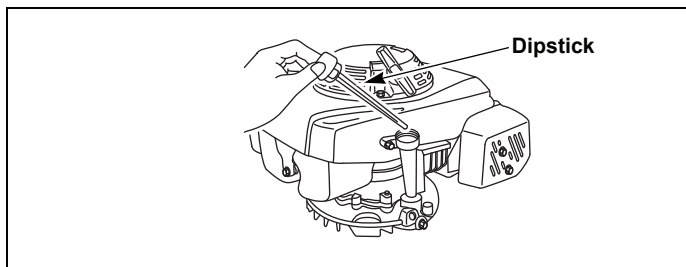

Fig. 4-18
2. Check the engine oil level using the engine oil dipstick. Do not screw dipstick into tube when checking engine oil. Make sure the oil level is between the upper and lower limits on the dipstick. Replenish oil if necessary. Make sure the dipstick is properly seated when reinstalled in the dipstick housing. Fig. 4-18